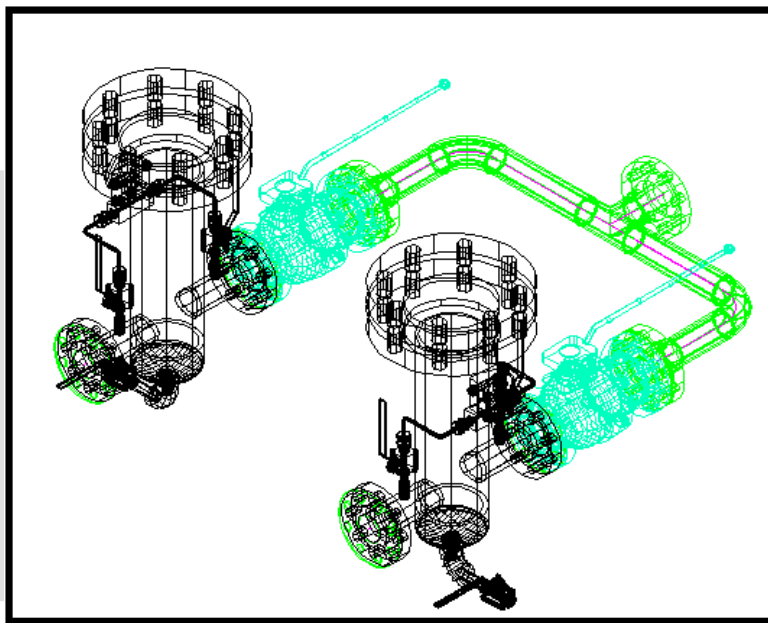

Fig: 20
03. After the completion of modelling process, those components has to be imported into CADWorx and fixed in their respective positions. See Fig:20